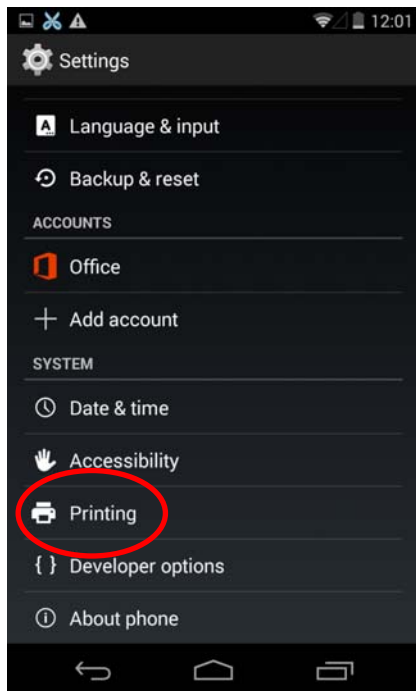

Figure 21
3.2 Find out “Printing” in “Settings” interface and enter into, as shown in Figure 21.